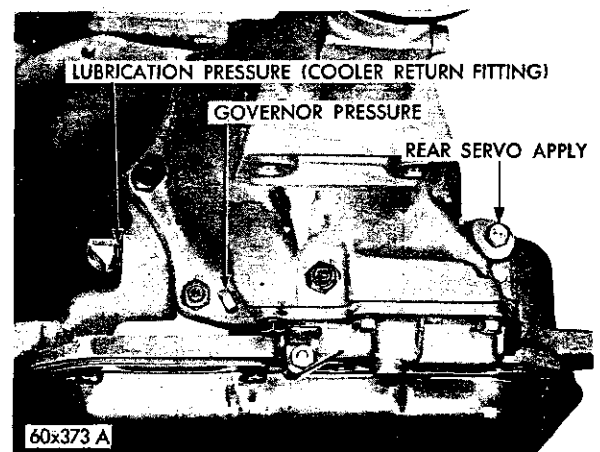

Fig. 25—Pressure Test Locations (Rear End of Case)
(1) Install a "tee" fitting between the cooler return line fitting and fitting hole in transmission case at rear of left side of transmission (Fig. 25). Connect a 0-100 psi pressure gauge, Tool C-3292 to the "tee" fitting.
(2) At 1,000 engine rpm, with the throttle closed and the transmission in direct, lubrication pressure should be 5-15 psi. Lubrication pressure will be approximately doubled as the throttle is opened to maximum line pressure.
3293 to the apply pressure take-off point at the rear servo (Fig. 25).
(1) Connect a 0-100 psi pressure gauge, Tool C-3292 to the governor pressure take-off point, located at lower left side of the extension near the mounting flange (Fig. 25).
(2) Governor pressures should fall within the limits given in the Governor Pressure Chart.